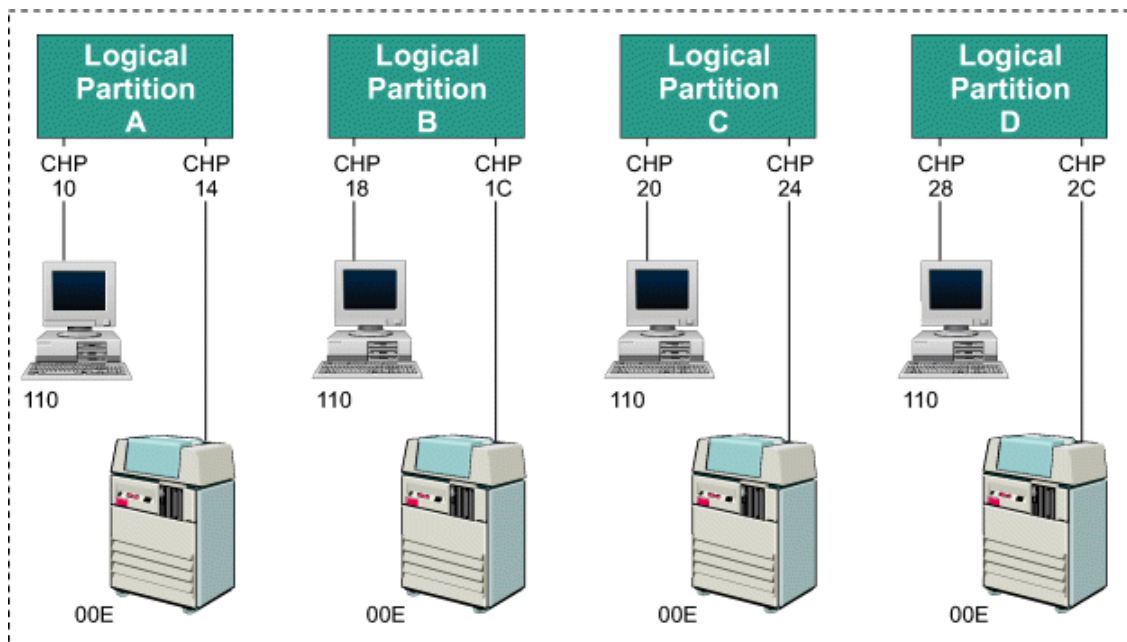

Figure 17. PR/SM configuration with duplicate device numbers
Figure 17 on page 51 illustrates a configuration where duplicate device numbers are used to represent a console (110) and a printer (00E) within each of four logical partitions.
The following example shows the IOCP statement for Figure 17 on page 51. This IOCP coding example groups the input statements by logical partition. When coding IOCP, view the I/O devices from a logical partition perspective.